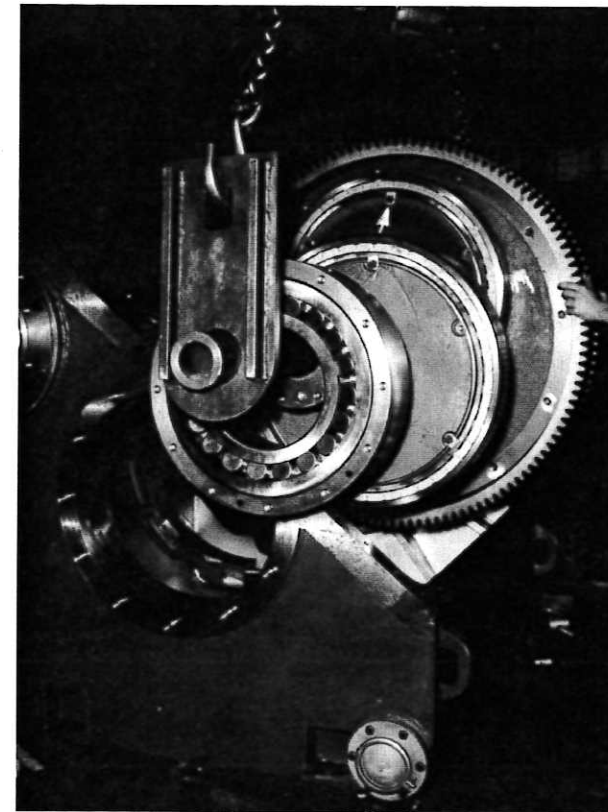

FIGURE 17
1. Install a pipe through eccentric and gear assembly and place bearing carrier and bearing assemblies on either end. With lifting devices shown in FIGURE 17, page 22, lift the unit and turn the eccentric so center throw is at the extreme top position (see reference mark in photograph). Carefully guide into position as shown. Be sure teeth of eccentric gear are pointing in proper direction to mesh with teeth of jackshaft.